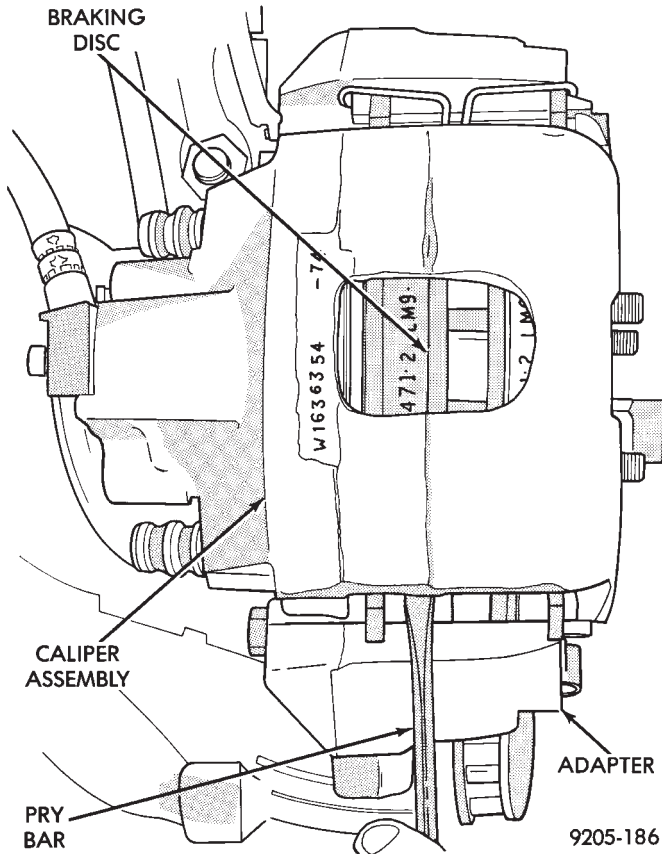

Fig. 2 Loosening Family Caliper Assembly From Adapter And Rotor
(4) After removing the caliper guide pin bolts. Pry the caliper away from the braking disc with a pry bar or screwdriver (Fig. 2).